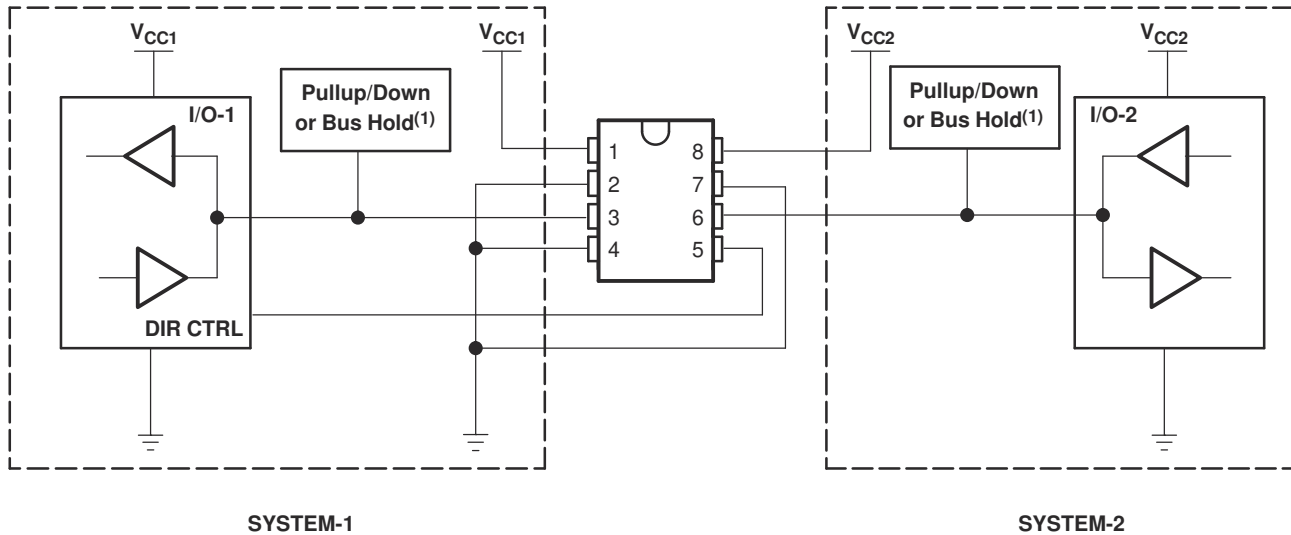

図 8-2. Bidirectional Logic Level-Shifting Application
図 8-2 shows the SN74LVC2T45-Q1 being used in a bidirectional logic level-shifting application. Because the SN74LVC2T45-Q1 does not have an output-enable (OE) pin, the system designer should take precautions to avoid bus contention between SYSTEM-1 and SYSTEM-2 when changing directions.